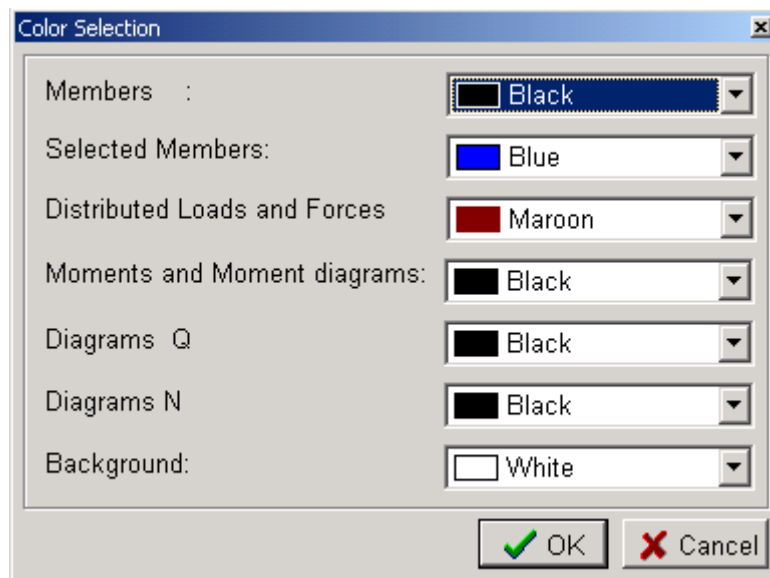

Figure 45 "COLOURS" dialogue box
1. Choose Parameters > Options > Colours command. The dialogue box shown on figure 45 will appear.